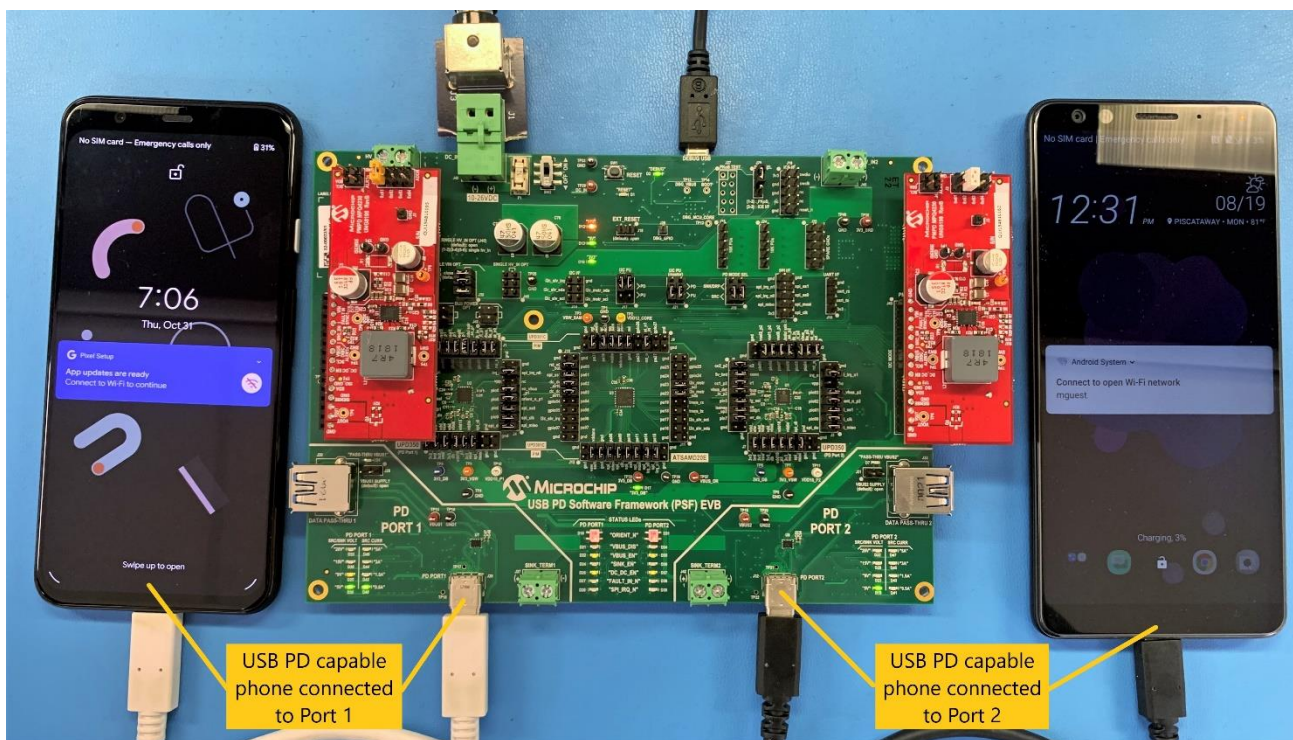

Figure 6.1 Two PD Capable Phones connected to each PD ports
5. The Figure 6.1 demonstrates a scenario where a PD Capable phone has been connected to Port 1 and PD Capable phone has been connected to Port 2